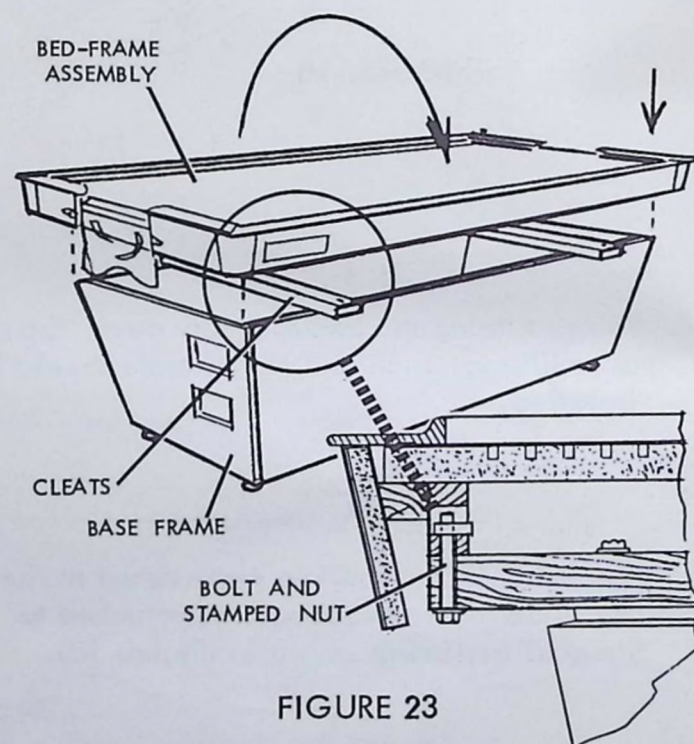

FIGURE 23
33. The bed and apron assembly is now ready to turn right side up on base assembly (Figure 23).